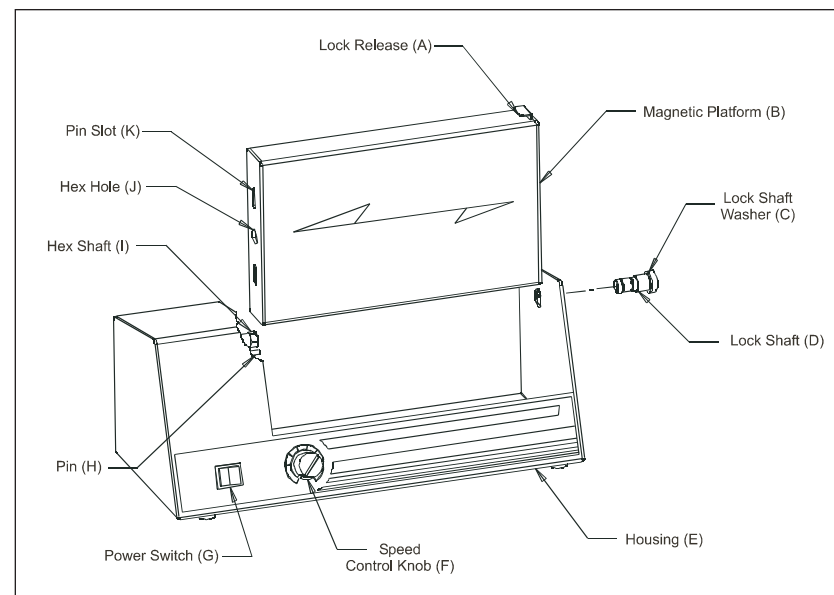

Figure 1
1. Carefully unpack the magnetic platform (Scientific Industries No. 0A-1100-030). The platform is shipped detached from the housing and must first be assembled (see fig. 1). Unscrew the lock shaft (D) from the right side of the housing (E) and remove it from the hole.
2. Affix the platform (B) into the housing with the hex hole (J) facing left, and the lock release (A) facing right, as shown. Rotate the platform to line up the hex shaft (I) with the hex hole and slide it onto the hex shaft.